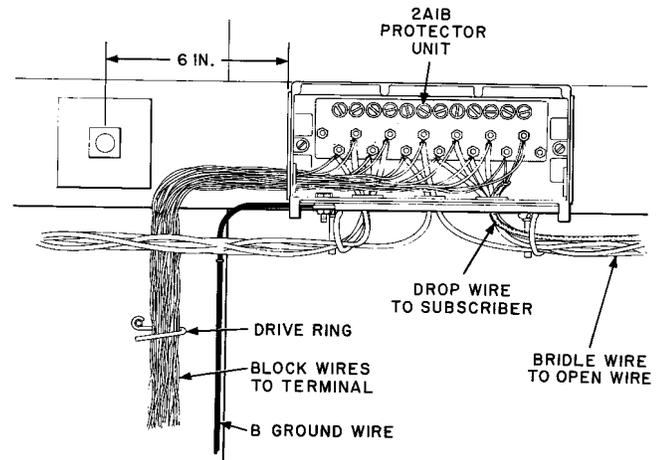

Fig. 12—Method of Terminating Wires at 116-Type Protector (Cover Omitted for Clarity)
- (c) Place the block wire to the cable terminal through the hole in the end, or through the appropriate entrance holes in the bottom of the 116-type protectors. (See Fig. 12.)